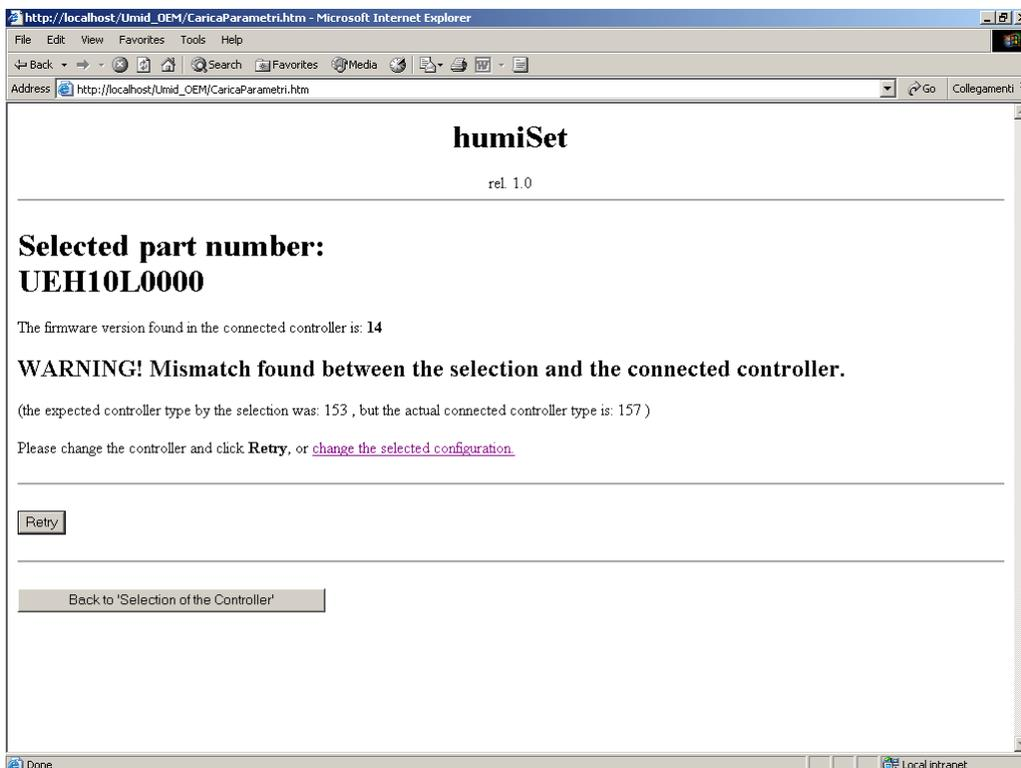

Figure 36
- If the consistency is not confirmed, then the option made does not suit the controller connected: for instance, a humidifier like “*humiSteam*” type H is selected, and the firmware for the management of humidifier “KUE\*\*\*\*\*” is stored, the following error page will be displayed (Figure 36):